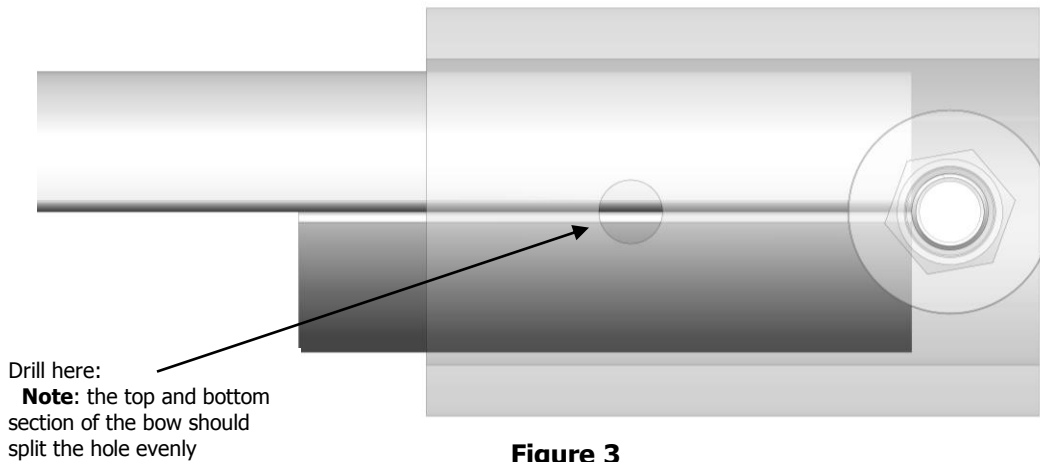

Figure 3
- Location = Horizontal hole centered on height and depth of the tubular bow receiver (See Fig 3.)
3. Slide the *Bow Receiver* over the end of the *Bow* until the bow rests against the *Bow Receiver Mounting Bolt*. If using a single bow in each receiver, install a 3" piece (that was cut in step 1) in the bottom 1/2 of the *Bow Receiver*. If using 2 bows per receiver slide both bows in, one cupped up and the other cupped down. If installed properly, the 2 bows, or bow and bow segment, together will result in a round shape with the seam being horizontal (see Fig. 3).
4. Using the Hole in the *Bow Receiver* as a guide drill $\frac{1}{4}$ " horizontal hole through the *Bow* and the 3" section, or second bow. This hole should be half in each of the *Bow* pieces as shown in Fig. 3.